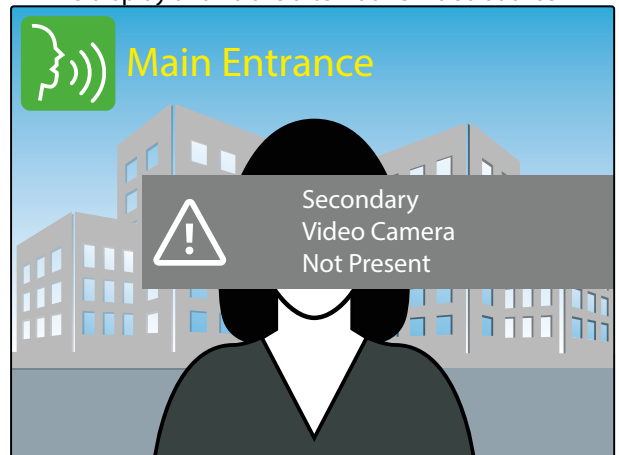

Fig. 46 No external camera connected
- If there are no external video sources connected to the door panel, an alert message will be shown (Fig. 46).